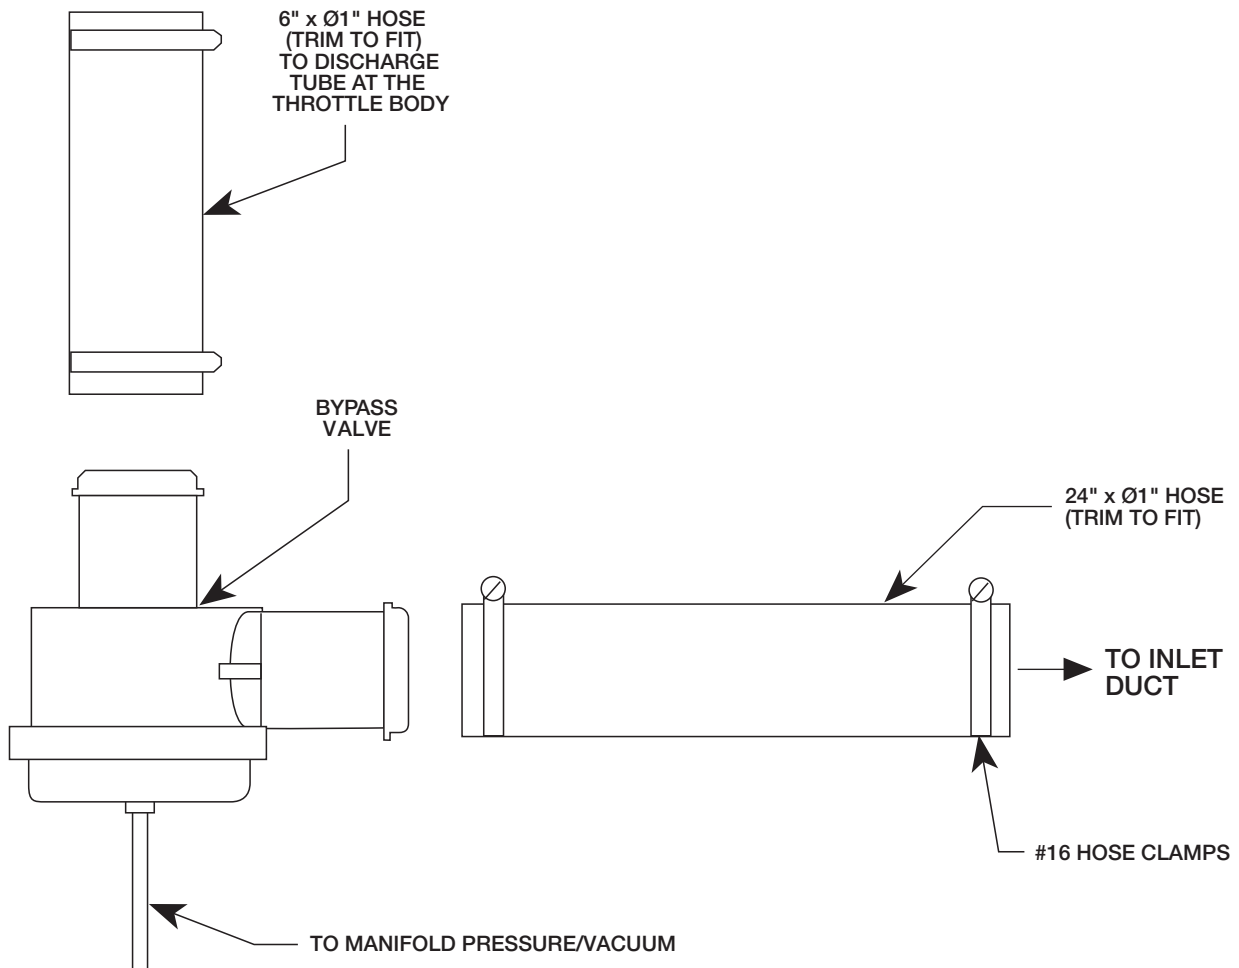

Fig. 7H-a
1. Assemble the bypass using a piece of $\text{Ø}1$ " hose cut to 6" long and a piece cut to 24" long and four #16 hose clamps.. (See Fig 7H-a)
2. Attach the 6" piece of hose to the inlet of the bypass and secure with a clamp. (See Fig. 7H-a)
3. Secure the 24" piece to the outlet of the valve, securing it with a clamp. (See Fig. 7H-a.)